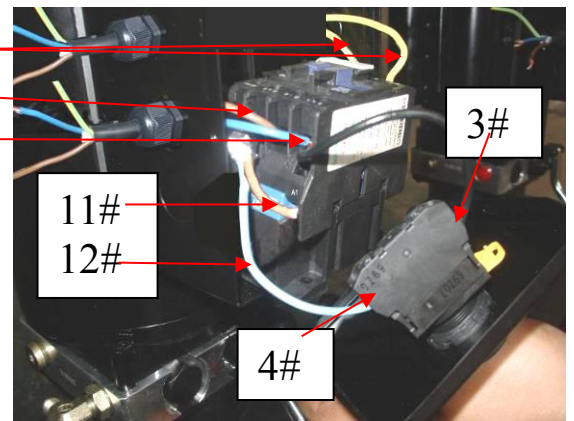

Fig. 42
4. Connecting Limit switch: Remove the line of connecting terminal 4# of control button and A1 of AC contactor (see Fig.41). Connecting wire 12# (brow wire) of limit switch with terminal 4# of control button; Connect wire 11# (blue wire) with terminal A1# of AC contactor. Connecting the yellow and green wire to the terminal earth wire of limit switch and terminal earth wire of power unit. (see Fig.42)